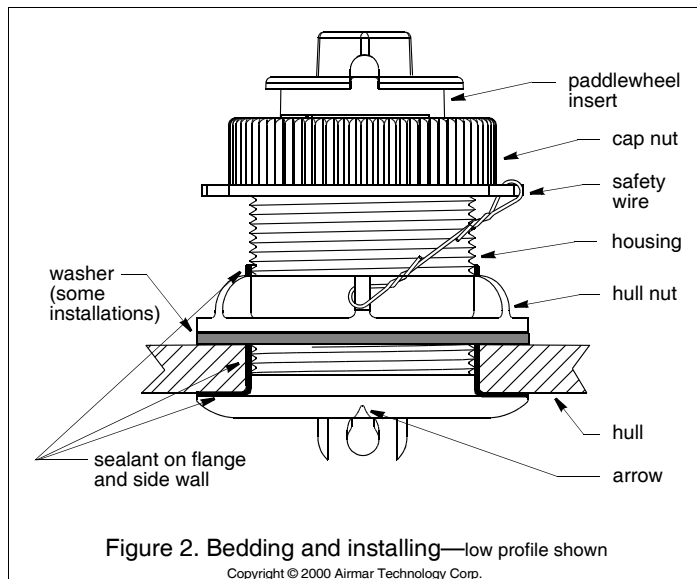

Figure 2. Bedding and installing—low profile shown
Apply a 2mm (1/16") thick layer of marine sealant around the flange of the housing that contacts the hull and up the sidewall of the housing. The sealant must extend 6mm (1/4") higher than the combined thickness of the hull, any washer(s), and the hull nut (see Figure 2). This will ensure there is sealant in the threads to seal the hull and hold the hull nut securely in place.
1. From outside the hull, push the housing into the mounting hole using a twisting motion to squeeze out excess sealant. *Align the arrow on the flange of the housing pointing forward toward the bow* (see Figure 2). If the sensor is not installed on the centerline of the boat, angle the housing slightly toward the centerline to align it with the water flow.
- Always attach the safety wire to prevent the insert from backing out in the unlikely event that the cap nut fails or is screwed on incorrectly. Attach the safety wire to one eye in the hull nut. Lead the wire in a counterclockwise direction and thread it through one eye in the cap nut. Twist the end securely to the wire (see Figure 2).
2. Remove the safety wire from the cap nut (see Figure 2).
4. Reattach the safety wire to the cap nut to prevent the insert from backing out in the unlikely event that the cap nut fails or is screwed on incorrectly (see Figure 2).